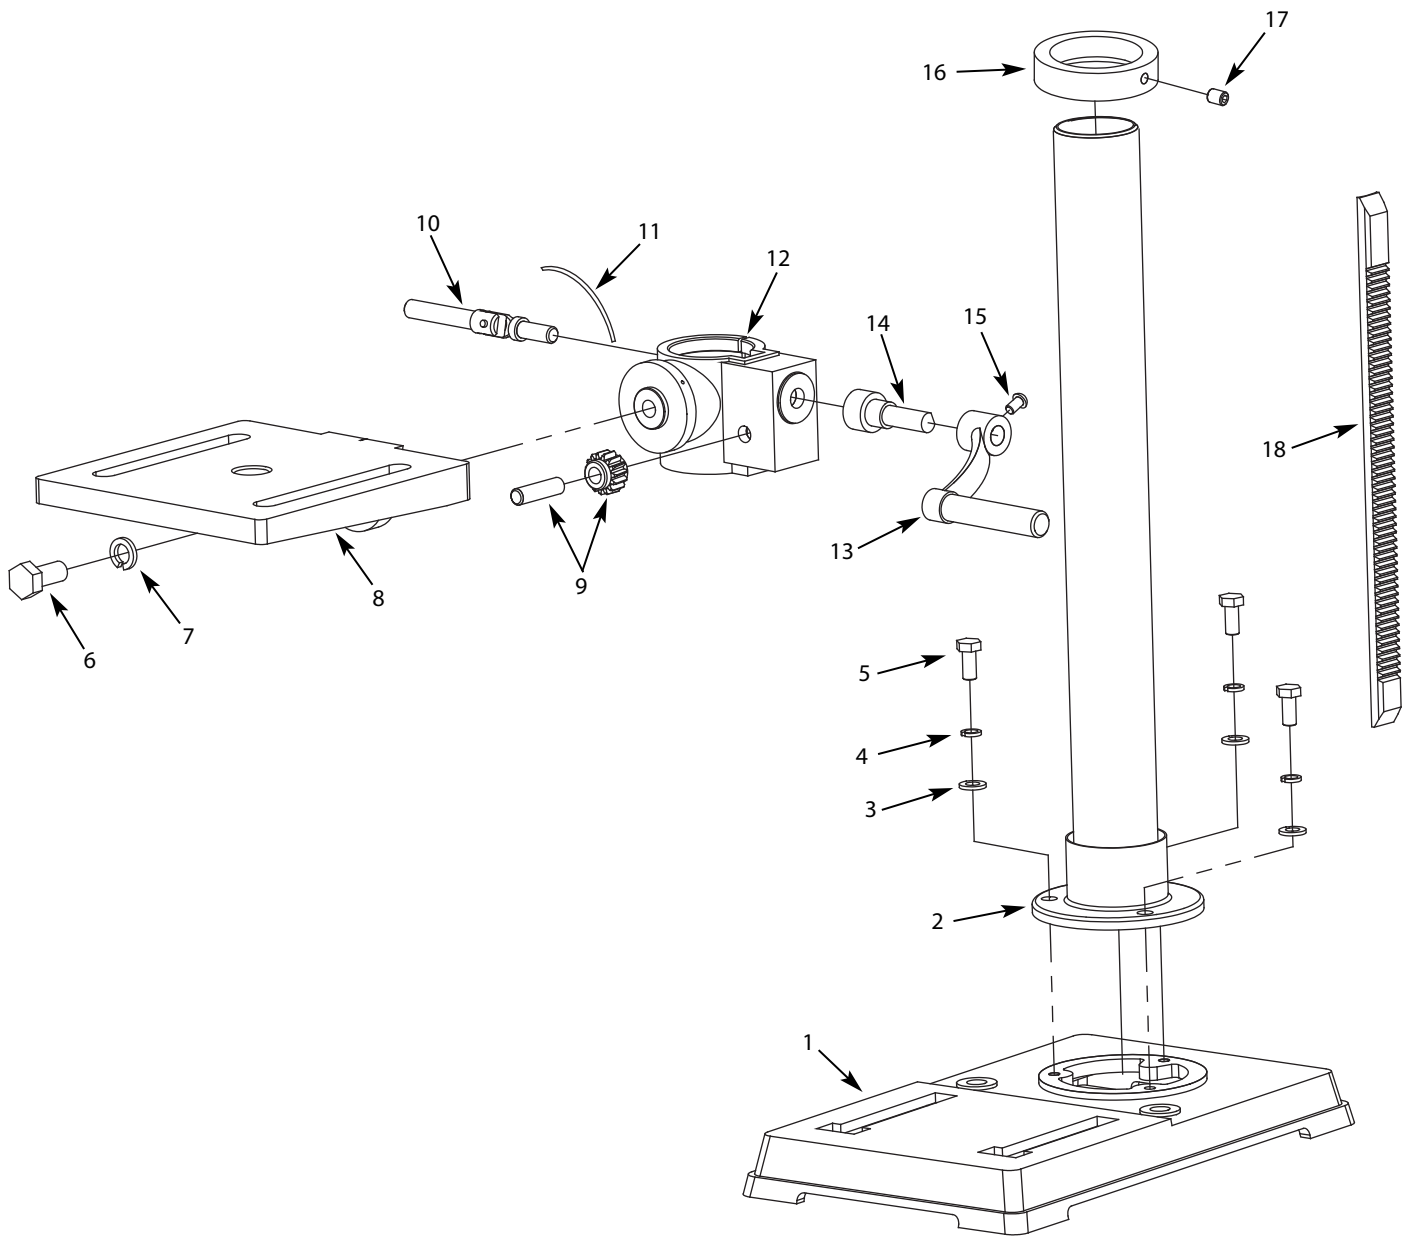

Figure 5 - Replacement Parts Illustration for Base
Refer to Figure 5.
Refer to Figures 5 and 6.
- Apply lubricant to rack and pinion gear (Figure 5, Ref. Nos. 9 and 18) on column and table assembly.